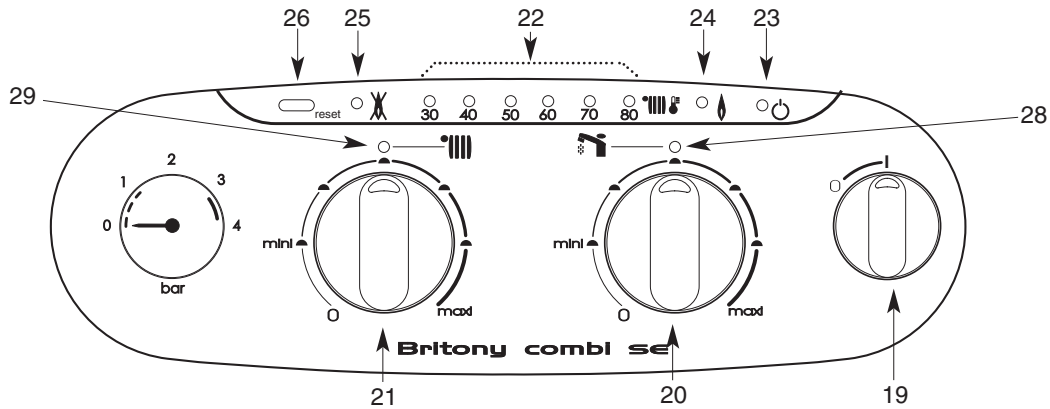
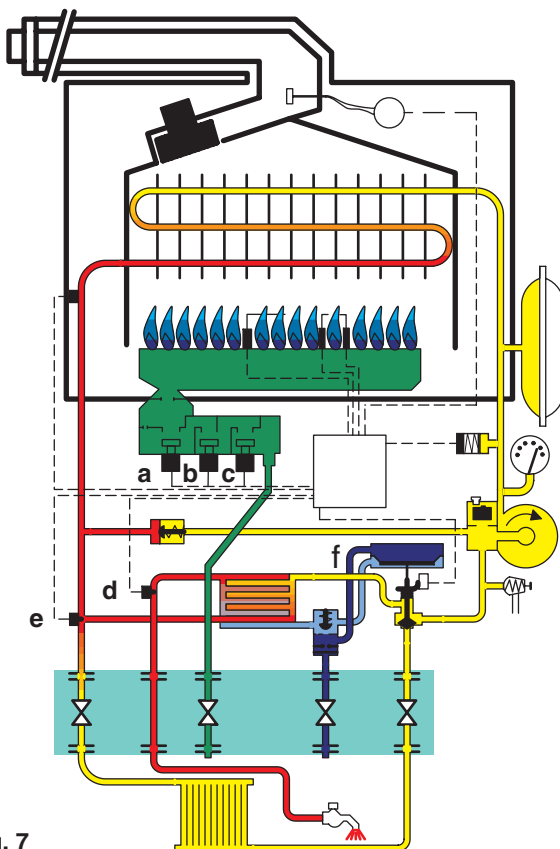

Fig. 6
Fig. 7
In order to supply hot water, the main switch **19** Fig. 6 must be in ON position **I**. This will be confirmed by the green indicator light **23** Fig. 6. Turn the selector switch **20** clock wise to establish the green DHW indicator **28** Fig. 6.
When a tap or shower is turned on, the flow of mains water, above 2 litres per min., will activate the 3 way valve **f** Fig. 7 to move to the DHW position. The pump will now circulate primary water heated by the main heat exchanger through the secondary heat exchanger.
The first stage solenoid **a** Fig. 7 and safety solenoid **c** Fig. 7 open together to allow gas to the burner. The ignition sequence begins and a continuous high speed spark ignites the gas. As soon as a flame is detected the
orange indicator bulb **24** Fig. 6 will light and the second stage solenoid **b** Fig. 7 opens to allow the full gas rate. If a flame is not detected, after 8 seconds, the security solenoid closes and shuts off the gas. The red lockout indicator bulb **25** Fig. 6 will show. The domestic hot water temperature is controlled by the hot water control thermistor **d** Fig. 7 and the central heating control thermistor **e** Fig. 7. This system anticipates the changes of temperature in the secondary heat exchanger and ensures accurate temperature regulation.
To be able to supply heating, the main switch **19** Fig. 6 must be in **I** position. This will be confirmed by the green indicator light **23** Fig. 6. Turn the selector switch **21** clock wise to establish the green heating indicator **29** Fig. 6.
When there is a demand for heating (either from the room thermostat or the clock) and the boiler temperature control is calling for heat. The pump starts allowing the ignition sequence to begin. The first stage solenoid **a** Fig. 7 and safety solenoid **c** Fig. 7 open together to allow gas to the burner. The ignition sequence begins and a continuous high speed spark ignites the gas. As soon as a flame is detected the orange indicator bulb **24** Fig. 6 will light. After 45 seconds the second stage solenoid **b** Fig. 7 opens to allow the full gas rate. If a flame is not detected, after 8 seconds, the security solenoid closes and shuts off the gas. The red lockout indicator bulb **25** Fig. 6 will show.
The central heating flow temperature is controlled by the central heating control thermistor **e** Fig. 7. The boiler has been designed to minimise cycling and will not attempt to relight for at least 3 minutes after the boiler thermostat has been satisfied (it is possible to reduce the time to 30 s if necessary). When the room thermostat is satisfied the burner will switch off and the pump will remain running for a further 4 minutes before it stops.
**NB :** It is possible to override the 3 minute delay by pressing the RESET button **26** Fig. 6.